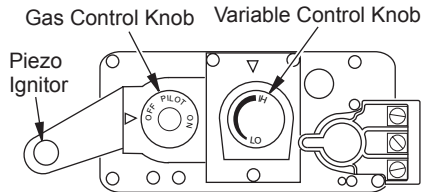

Figure 44 - Control Valve
7. Turn gas control knob counterclockwise ↶ to PILOT (see Figure 44).
8. Push in gas control knob all the way and hold. Immediately light pilot by repeatedly pressing piezo spark ignitor until a flame appears. Continue to hold for about one (1) minute after pilot is lit. Release gas control knob and it will pop back. Pilot should remain lit. If it goes out, repeat steps 5 through 8.